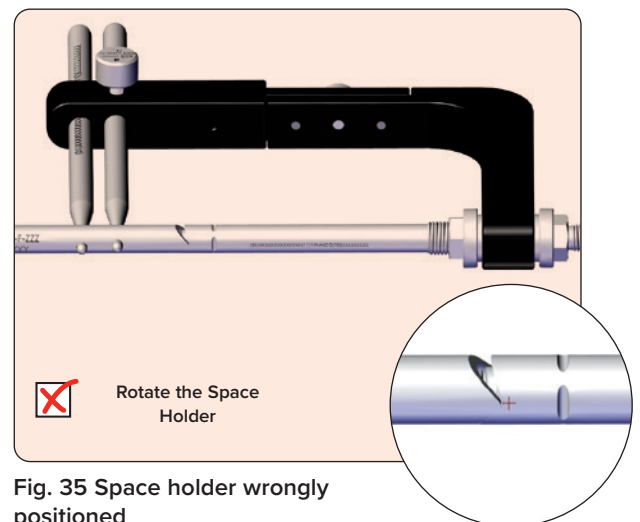

Fig. 35 Space holder wrongly positioned
1. The marking "THIS SIDE UP" on the Space Holder is not facing upwards and the connection between drill guide assembly and nail is loose (**Fig. 35**).